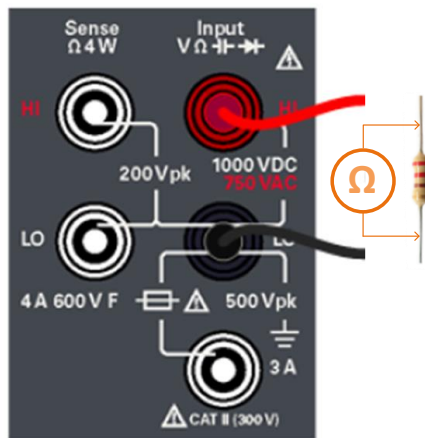

Figure 5.0a: DMM “Ohmmeter” Connection
2. Turn ON the DMM multimeter and set it as an **Ohmmeter** by pressing the “**Ω2W**” function key on the instrument. Then, as illustrated in **Figure 5.0a**, directly measure the actual resistance value of each **10 kΩ** resistor. Record yours results in **Table 3.0** in the appropriate column. Fill in the remaining columns later for Post-Lab work.
2. Turn ON the DMM multimeter and press the ΩW function key to set it as an *Ohmmeter*. Refer to **Figure 5.0a** for proper cable connections to the multimeter.